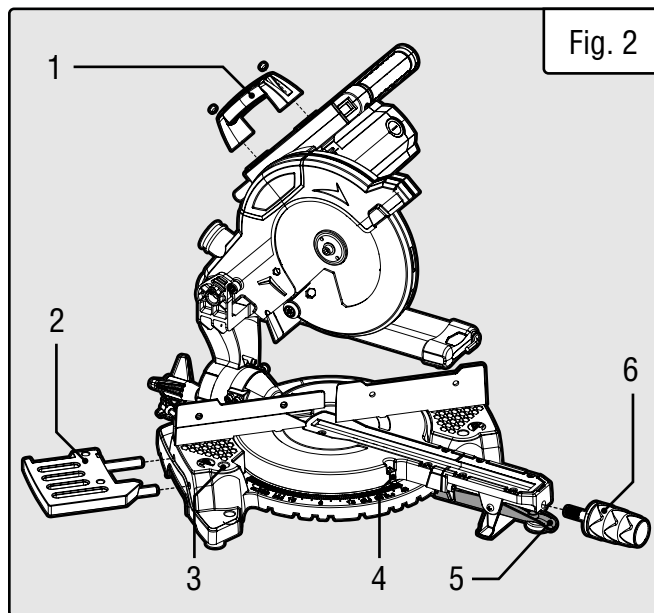

Fig. 2
Use the two handle-mounting screws to attach the carrying handle (Fig. 2 - 1) to the miter saw. Tighten using a Phillips-head screwdriver (not included).
1. Loosen the miter lock knob (Fig. 2 - 6) by turning it one or two turns counterclockwise.
2. Pull up on the miter stop lever (Fig. 2 - 5) to unlock the table. While holding the miter stop lever up, adjust the table to the desired angle. The miter scale indicator (Fig. 2 - 4) will point towards the selected angle. To make micro adjustments to a specific angle, rotate the table while pulling up on the miter stop lever. The miter table has positive stops at 0°, 15°, 22.5°, 30°, and 45° in both directions for quick adjustments.
3. After selecting your miter angle, release the miter stop lever and tighten the miter lock knob (Fig. 2 - 6) by turning it clockwise to lock the table in place.
The table extensions (Fig. 2 - 2) serve as extra support for your workpiece and need to be installed on either side of your miter saw.
1. Insert the pegs on the end of the table extension into the holes on the side of the miter table. See Fig. 2.
2. Tighten the screw (Fig. 2 - 3) on the miter table to secure the table extension into place.